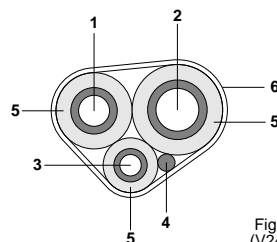

Fig. 27 (V2498)
- Remove the lower frontplate (1), punch a hole in the knock hole and cut the hole (2) all the way to the slit.
- Attach the 3 sealing pads (optional parts) (3) on the wiring mounting plate (optional parts) (4) corresponding to the overlapped area of the front plate.
- Pick the transmission line from the middle positioned conduit hole on the left side plate, or from the front position of the main unit (after binding it to the piping with finishing tape as in figure 27).